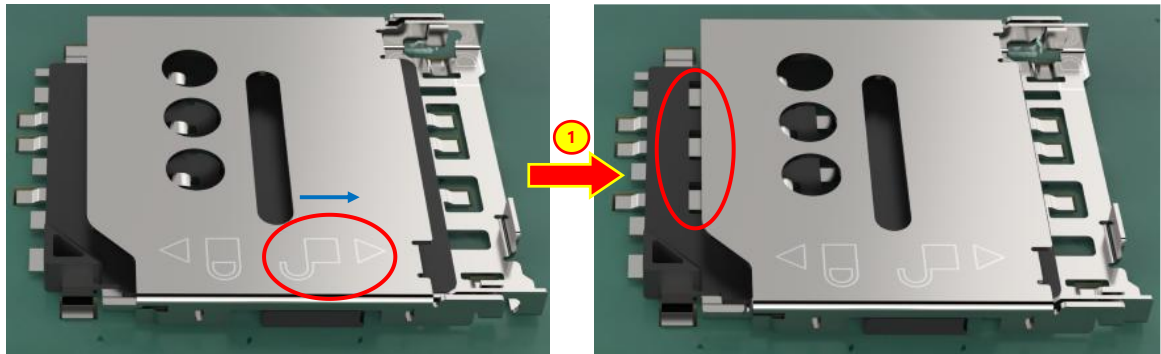

Figure 3-5: Slide the Upper Cover to the Release Position
Step 1: Slide the upper cover to the release position according to the direction of the unlocking symbol (See Figure 3-5).